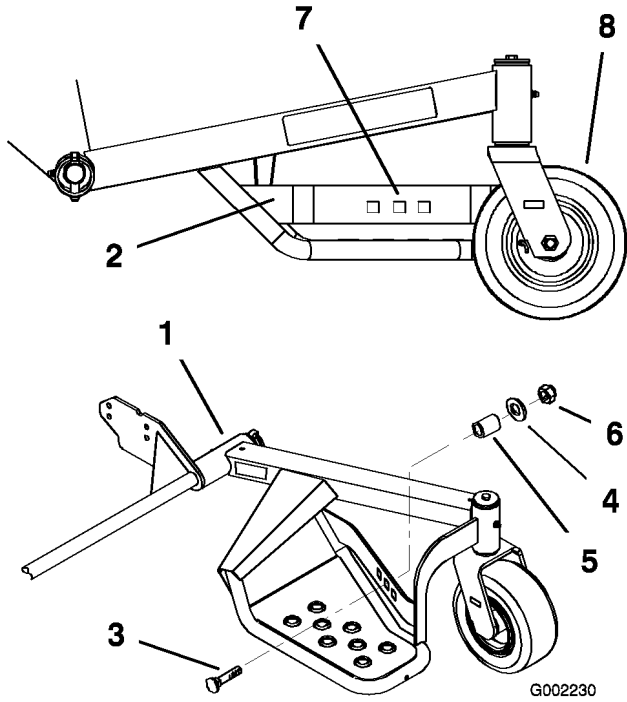

Figure 12
2. Locate the three adjustment holes in the sulky assemblies (Figure 12). The hole closest to the sulky wheel is used when the handle is in the high position. The middle hole is for the middle handle height position and the front hole is for the low handle height position.
3. Install the nut (5/16 inch), washer (1 inch O.D), spacer and bolt (5/16 x 1 inch) into the correct hole location determined above (Figure 12).